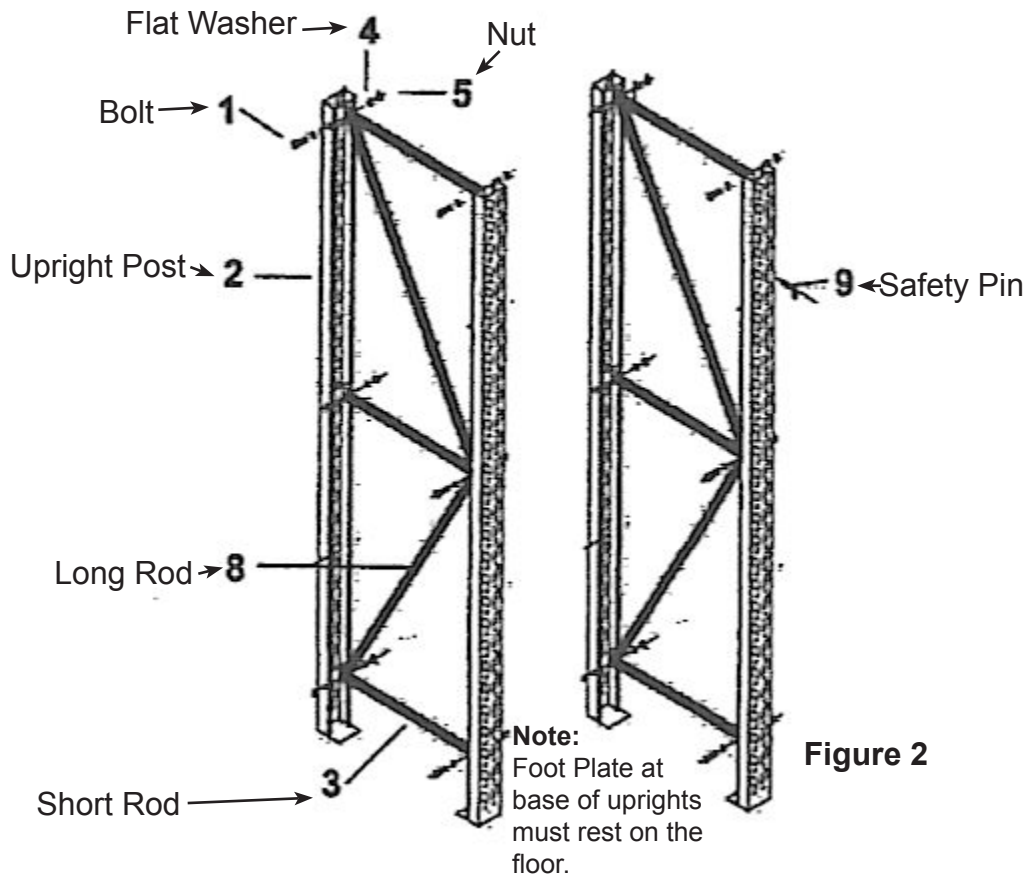

Figure 2
- NOTE: Use two persons to assemble this Storage Rack. The Upright Posts (2) are directional, the slots must face inward (see Figure 2 on page 5).**